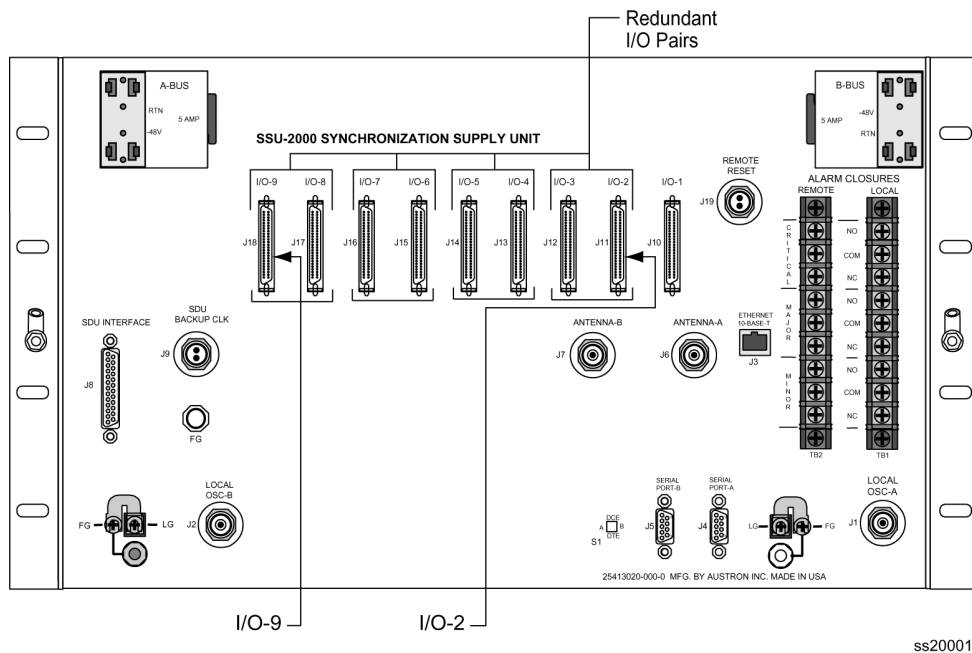

Figure 3-5. SSU-2000 Input/Output Connectors
For an A/B pair of Output modules (in a redundancy configuration), Output Summer connectors are required on the corresponding outputs as shown in Figure 3-5. All Module A outputs are summed with the corresponding outputs of Module B, providing 1:1 output protection (1:1 redundancy). Output pairs in slots A4/A5, A6/A7, A8/A9, and A10/A11 are available for configuration in redundant mode using Output Summer connectors. Figure 3-5 shows the placement of the Output Summer connectors for redundancy. The pinout of the Output Summer connectors is the same as the I/O interface connectors.
2. Install Output Summer connectors on all corresponding outputs requiring redundancy, see Figure 3-5.